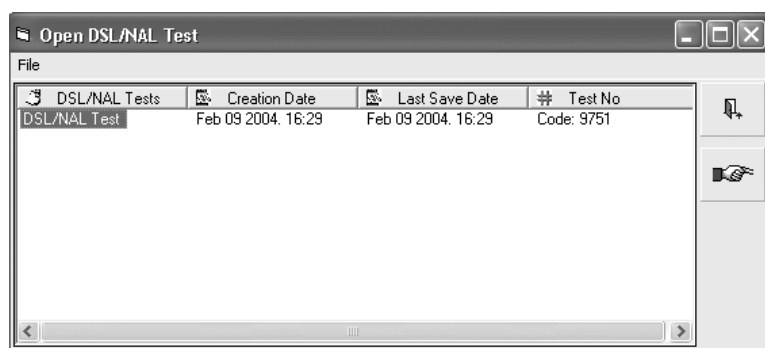

Figure 6.1.1—Open an existing DSL/NAL-NL1 test
1. Click **Open** in the DSL/NAL-NL1 toolbar. Alternately, select **Open** in the **File** menu. This will open a listing of all saved DSL/NAL-NL1 tests for that client. See Figure 6.1.1.